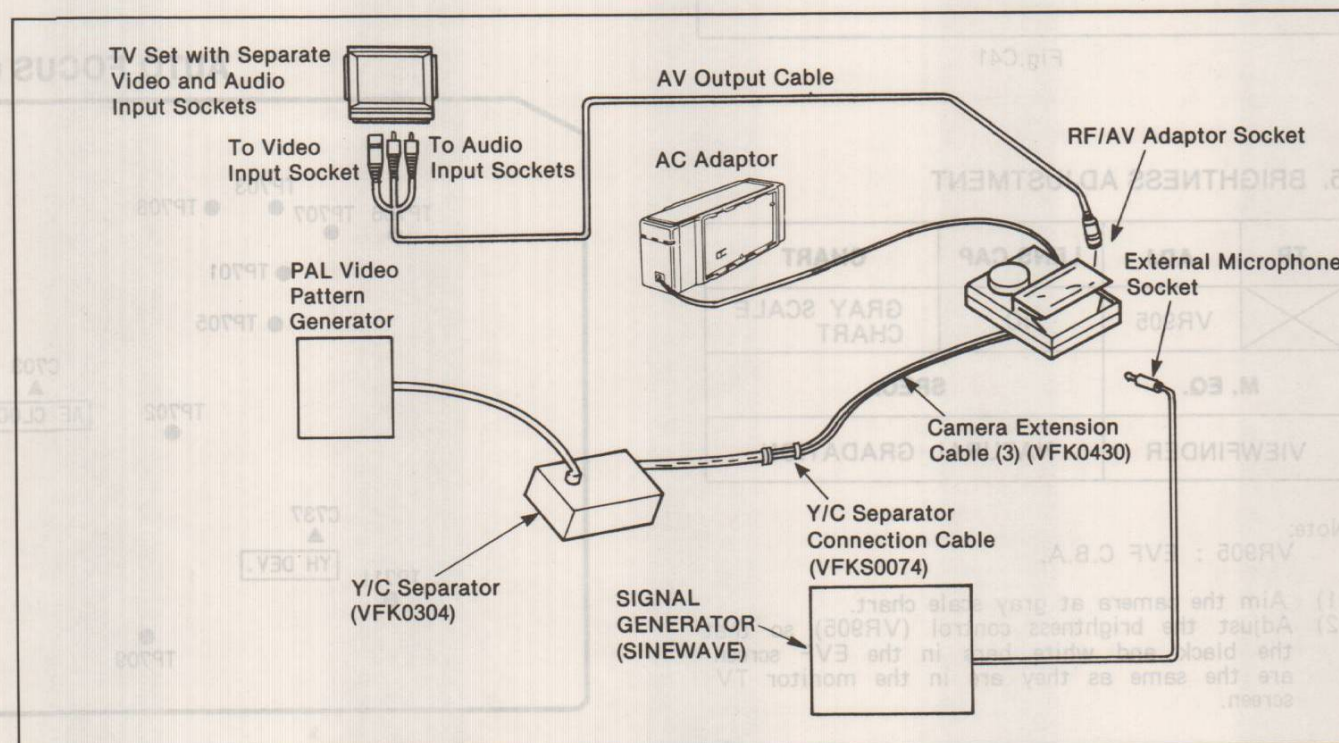

Fig.E1
- Supply the video signal to the video circuit by using the Y/C separator (VFK0304) as shown in Fig. E1.